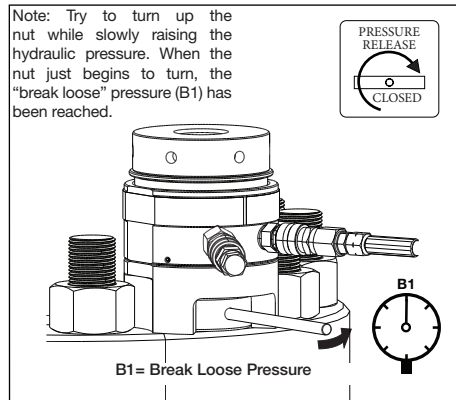

FIGURE 17, DETERMINING THE “BREAK LOOSE” PRESSURE
4. If no leaks are found, continue operating the pump. Slowly raise the pressure until the “break loose” hydraulic pressure value is reached. This is the pressure at which a nut on one of the tensioners just begins to loosen and can be turned by hand with the tommy bar. Record this pressure for reference. See Figure 17.